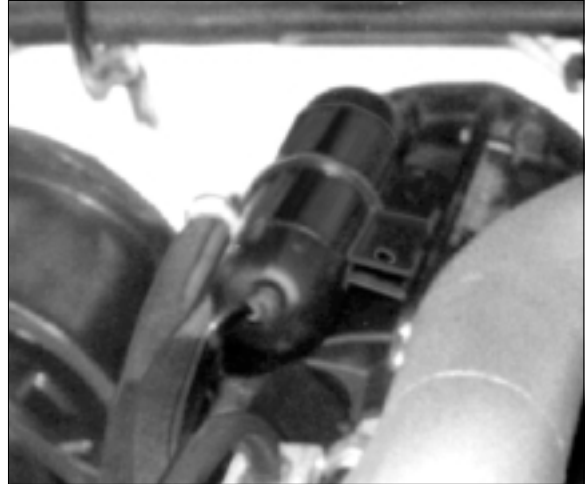

Fig. 1-a
- D. Rotate the vacuum reservoir located on top of the air conditioning condenser 180° (see Fig. 1-a), rerouting the vacuum line attached to the mounting tab.